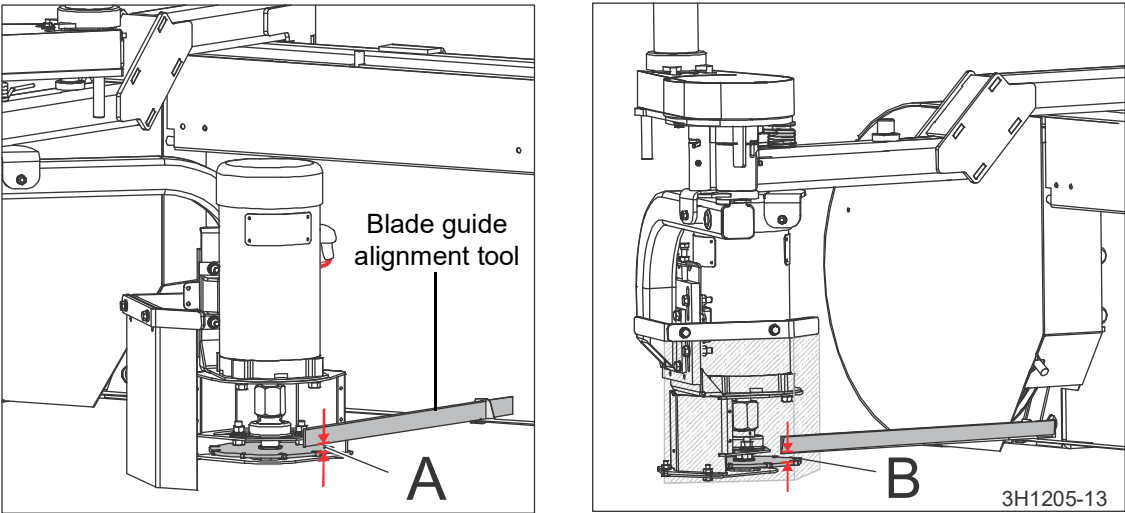

FIG. 1-1
- a. Mark the position of the debarker blade in relationship to the bottom of the blade guide alignment tool. (Measurement A in Fig. 1-1.)
- b. Turn the key to ACC (3) and use the debarker in/out switch to move the debarker all the way inward.
- c. Mark the position of the debarker blade in relationship to the bottom of the blade guide alignment tool. (Measurement B in Fig 1-1.)